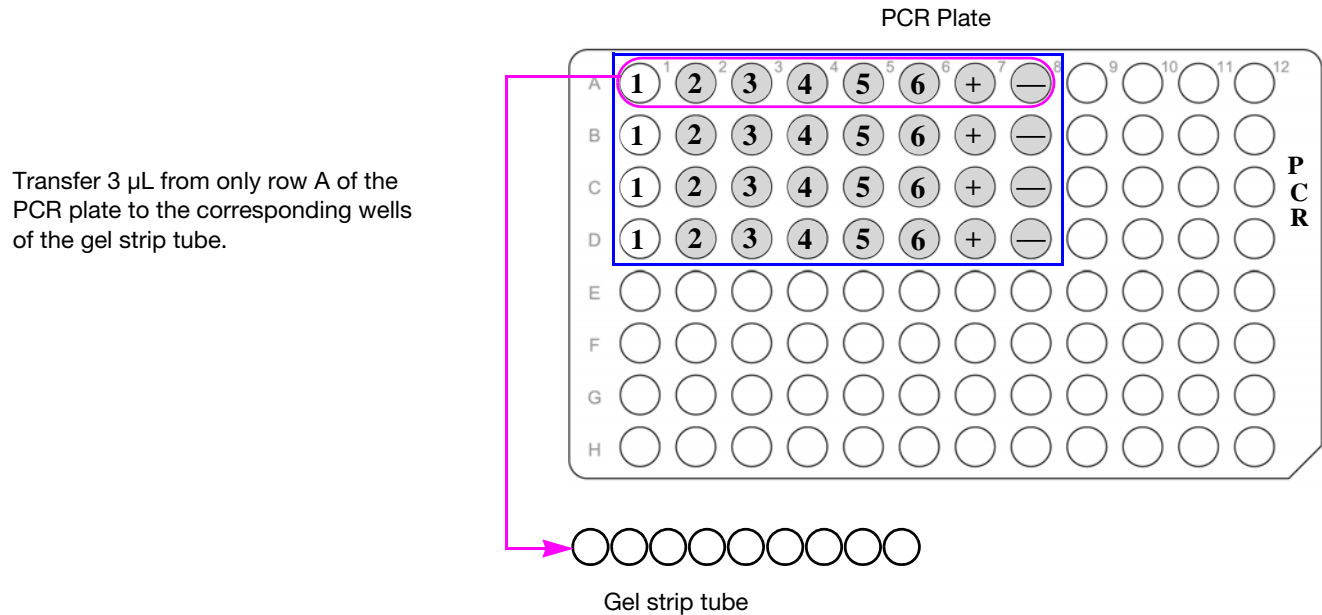

Figure 10 Transfer aliquots of each PCR product to the gel plate.
2. Transfer 3 μL of the PCR product from each well of row A to corresponding wells of the strip tube (Figure 10) for in-process QC.